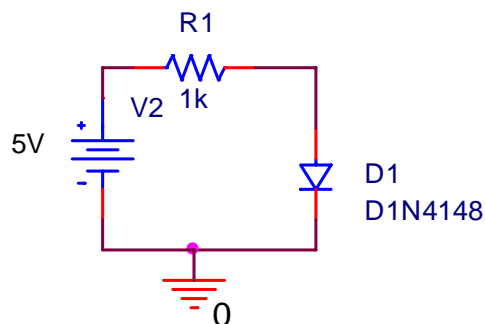

Figure A-6
- Modify your PSpice schematic by replacing Ra2 with D1, a D1N4148 diode, as shown in figure A-6. You will find this diode in the parts list. It is in the EVAL library. In this diagram, Ra1 has been replaced with R1. This was done just for convenience.